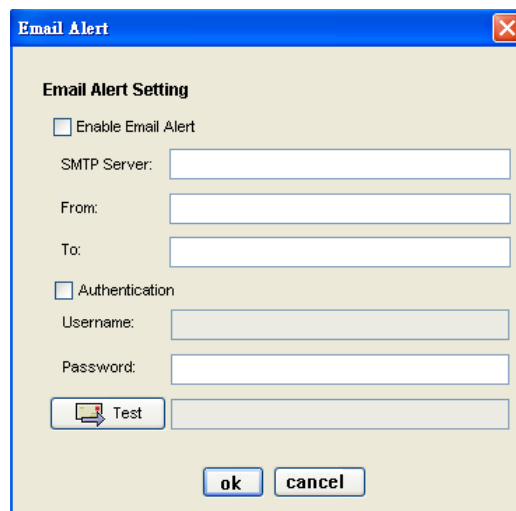

Figure 12-3
- **Email:** displays an “Email-Alert Settings” dialog box (see Figure 12-3). Fill the “SMTP server”, “From (email address)” and “To (email address)” fields. The “From” and “To” addresses must be valid in the SMTP server. If the SMTP server requires authentication, please enter the username and password. Once entering needed information, click the <Test> button to verify if your email works properly.